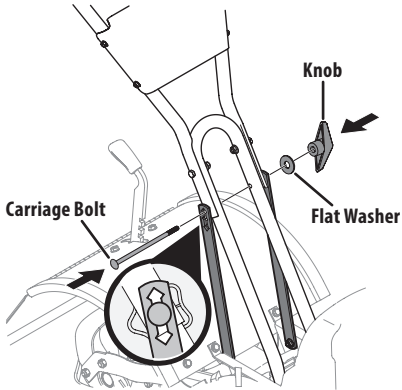

Figure 3
- Loosely attach the support brackets to the outside of the handlebar assembly using the carriage bolt, flat washer and knob. See Figure 3.